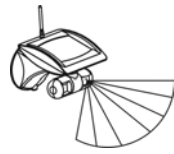

Figure 1
2. Detecting sensitivity: A passive infrared sensor operates by detecting the objective movement and heat. When the temperature of the moving object and its surrounding area are close in value, it may reduce PIR's sensitivity. The motion detector's infrared beams radiate outward like the slat of a wooden fence. Prior to mounting, keep in mind that the motion sensor is more sensitive to the motion that crosses these "slats", and less sensitive to the motion that moves directly towards the sensor (see Figure 1 and 2.)